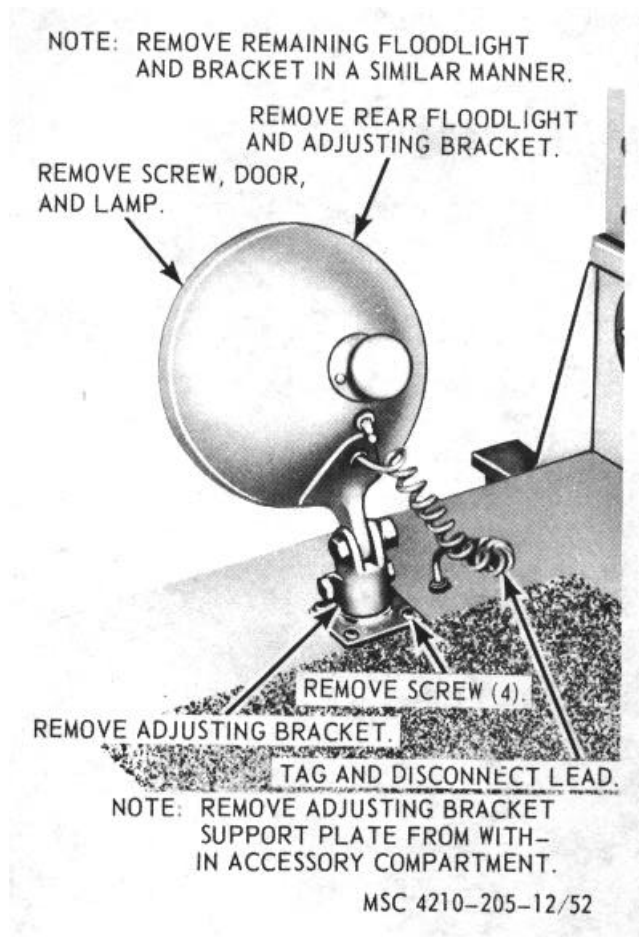

Figure 52. Rear floodlight, removal and installation.
a. Removal. Refer to figure 52, and remove the rear floodlight from the fire truck body.
- (1) Clean all parts with a clean cloth dampened in an approved cleaning solvent, and dry thoroughly.
- (2) Inspect door, gasket, and body for damaged or defective condition.
- (3) Inspect lamp for crack, breaks, or burned out condition.
- (4) Replace or repair damaged or defective parts as necessary.
c. *Installation.* Refer to figure 52, and install the rear floodlight on the fire truck body.